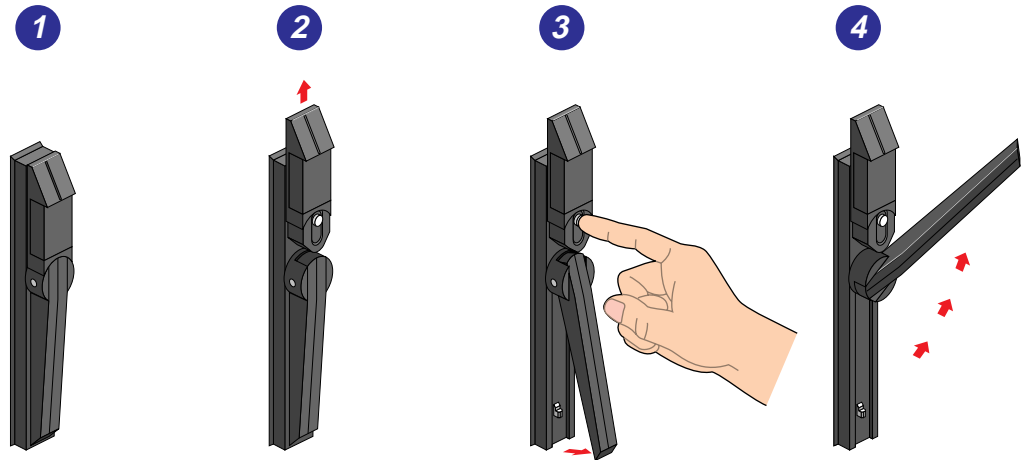

Figure 1-22 Opening the Rack Rear Door
2. Push up the top part of the latch, as shown in the second panel of Figure 1-22.
3. Press the button as shown in the third panel of Figure 1-22. This action releases the door lever.
4. Pull the door lever up and to the right, to approximately the 2 o'clock position, as shown in the fourth panel of Figure 1-22. The door opens.
To close the door, lift the locking brace at the bottom. Then reverse the steps shown in Figure 1-22 to latch the door.